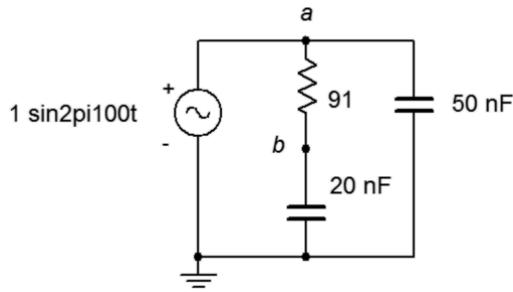

Figure 4.9
11. For the circuit of Figure 4.9, determine the source current and the current through each of the components.
12. For the circuit of Figure 4.9, determine voltages  $v_{ab}$  and  $v_b$ . Also, draw a phasor diagram of  $E$ ,  $v_{ab}$  and  $v_b$ .
35. Determine a new value for the 20 nF capacitor in Figure 4.9 such that the resistor current is 2 mA.
41. Given the circuit of Figure 4.9, determine the frequency at which  $v_b$  is half of the source voltage.